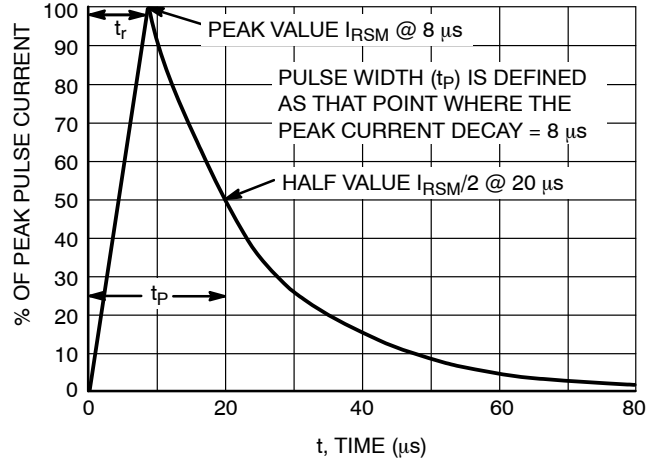

Figure 2. $8 \times 20 \mu s$ Pulse Waveform
- Peak Power: 150 W @ 20 μ s (Unidirectional), per Figure 2
3. Non-repetitive pulse per Figure 2.